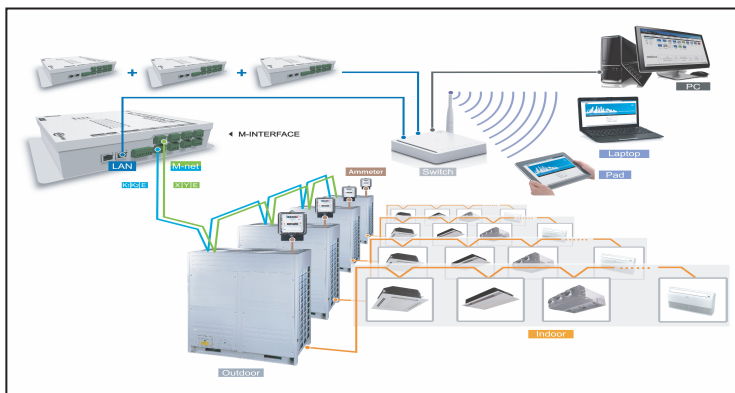

Fig.4-1
- 1) KAYNET M-INTERFACE gateway can connect the local area network or Internet network through LAN terminal. KAYNET M-INTERFACE network topology as follows Fig 4-1.